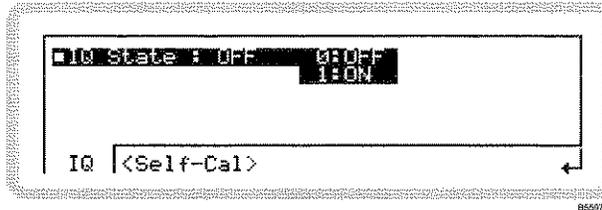
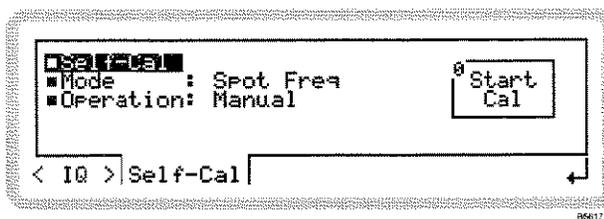

Fig. 3-27 Internal IQ
Fig. 3-28 Self-calibration
- 2 Press **SIG GEN** to show the main screen, and touch the **IQ** soft box to select the function. Touch **IQ** and press **↙** to view the internal IQ modulation menu (Fig. 3-27).
From the internal IQ menu of Fig. 3-27, touch <Self-Cal> or press <TAB> to display the self-calibration screen (Fig. 3-28).